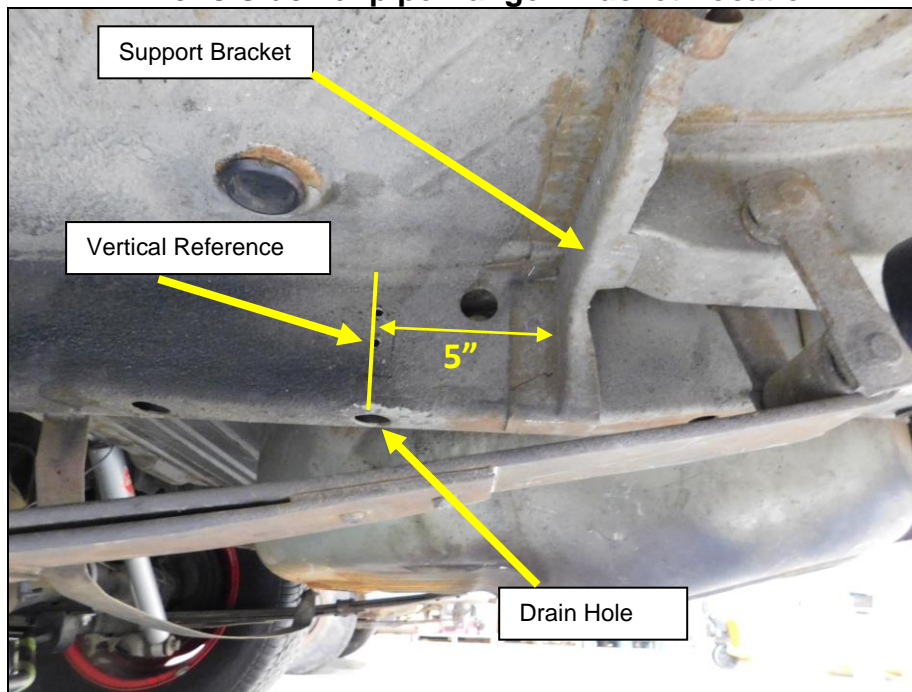

**Figure 7**
9. Use a 9/32 drill bit and drill a hole in the brake line bracket only. Use bolt hole position #2 as a guide as shown in **Figure 7**.